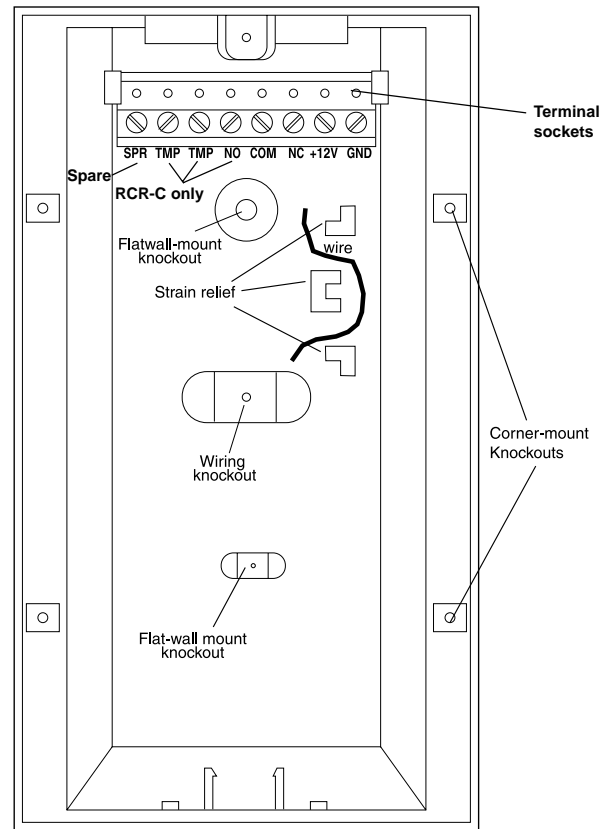

Figure 3 - Detector Base
4. Remove the appropriate wiring and mounting knockout holes from the back cover. The detector can be mounted on a flat wall or in a corner. See Figure 3.
7. Run each wire through the strain relief and under the appropriate screw terminals on the base and tighten the screws. See Figure 3.